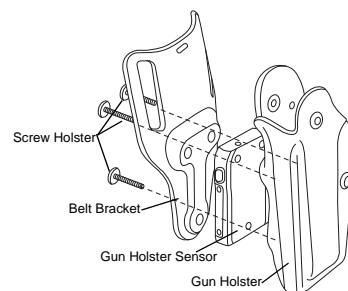

Figure 3: Mounting the sensor within holster and belt bracket
1. Arrange the components as in Figure 3 with the sensor within the holster and belt bracket by facing the M-Logo to Belt Bracket.